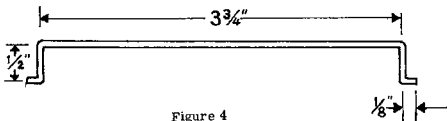

Figure 4
- (✓) Connect the leads from the bifilar coils to the solder lugs on the polystyrene bar; lead 1 to solder lug A, lead 2 to solder lug B, lead 3 to solder lug C, and lead 4 to solder lug D. Cut off the excessive length from each lead (NS).
- (✓) Repeat the above connections on the other bifilar coil, lead 5 to solder lug E, lead 6 to solder lug F, lead 7 to solder lug G, and lead 8 to solder lug H (NS).
- (✓) Cut a piece of #14 wire 4 3/4" in length. Bend and form the wire as shown in Figure 4. Connect one end to solder lug A (S-2) and the other end to solder lug E (S-2).
- (✓) Cut a piece of #14 wire 4 3/4" in length. Bend and form the wire as shown in Figure 4. Connect one end to solder lug C (S-2) and the other end to solder lug H (S-2).
- (7) Cut a piece of #14 wire 4 3/4' in length. Bend and form the wire as shown in Figure 4. Connect one end to solder lug C (S-2) and the other end to solder lug G (S-2).
- (8) Position solder lug J on the feed-through-insulator so that it points away from the bottom of the chassis.
- (9) Cut a piece of #14 wire 1 1/2' in length. Form a small loop on one end and connect it to the wire going from solder lugs C and G. Connect the other end to solder lug J. Solder both connections.